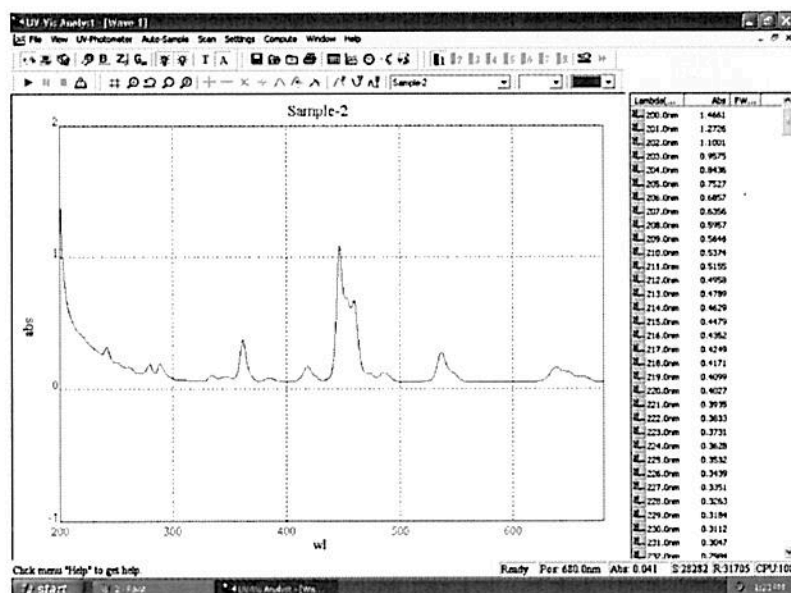

Fig. 4-13
6. Place sample into the sample holder. Click **▶** to scan sample, the real time spectrum will be displayed (Fig. 4-13). Click **■** to cancel while scanning.